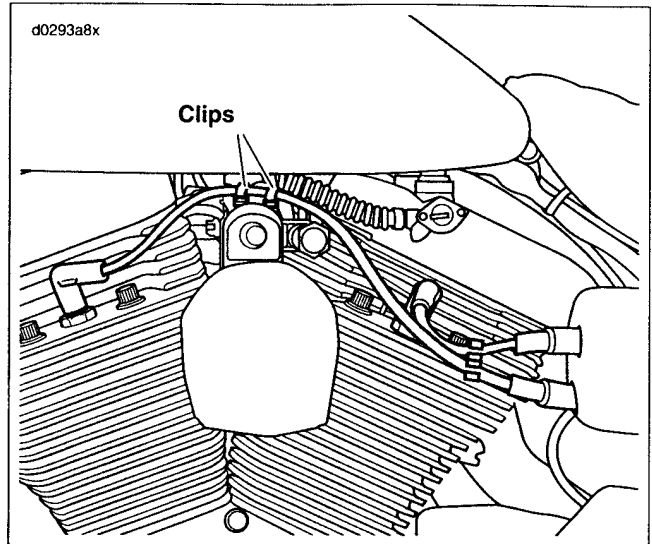

Figure 8-17. Spark Plug Cable Routing
2. See Figure 8-17. Remove clips on horn bracket for front spark plug cable.
1. See Figure 8-17. Connect spark plug cables to ignition coil and spark plugs. Rear cylinder plug cable attaches to top coil terminal. Fasten boots/caps securely. Tight connections provide the necessary moisture-proof environment for the ignition coil and spark plug terminals.